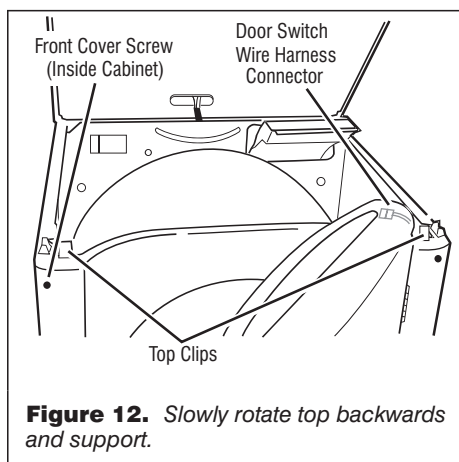

Figure 12. Slowly rotate top backwards and support.
5. Push on the retaining clips located under top of dryer on the right and left side using a flat object such as a putty knife. See figure 12.
7. Disconnect the door switch wire harness located on the right side. See figure 12.